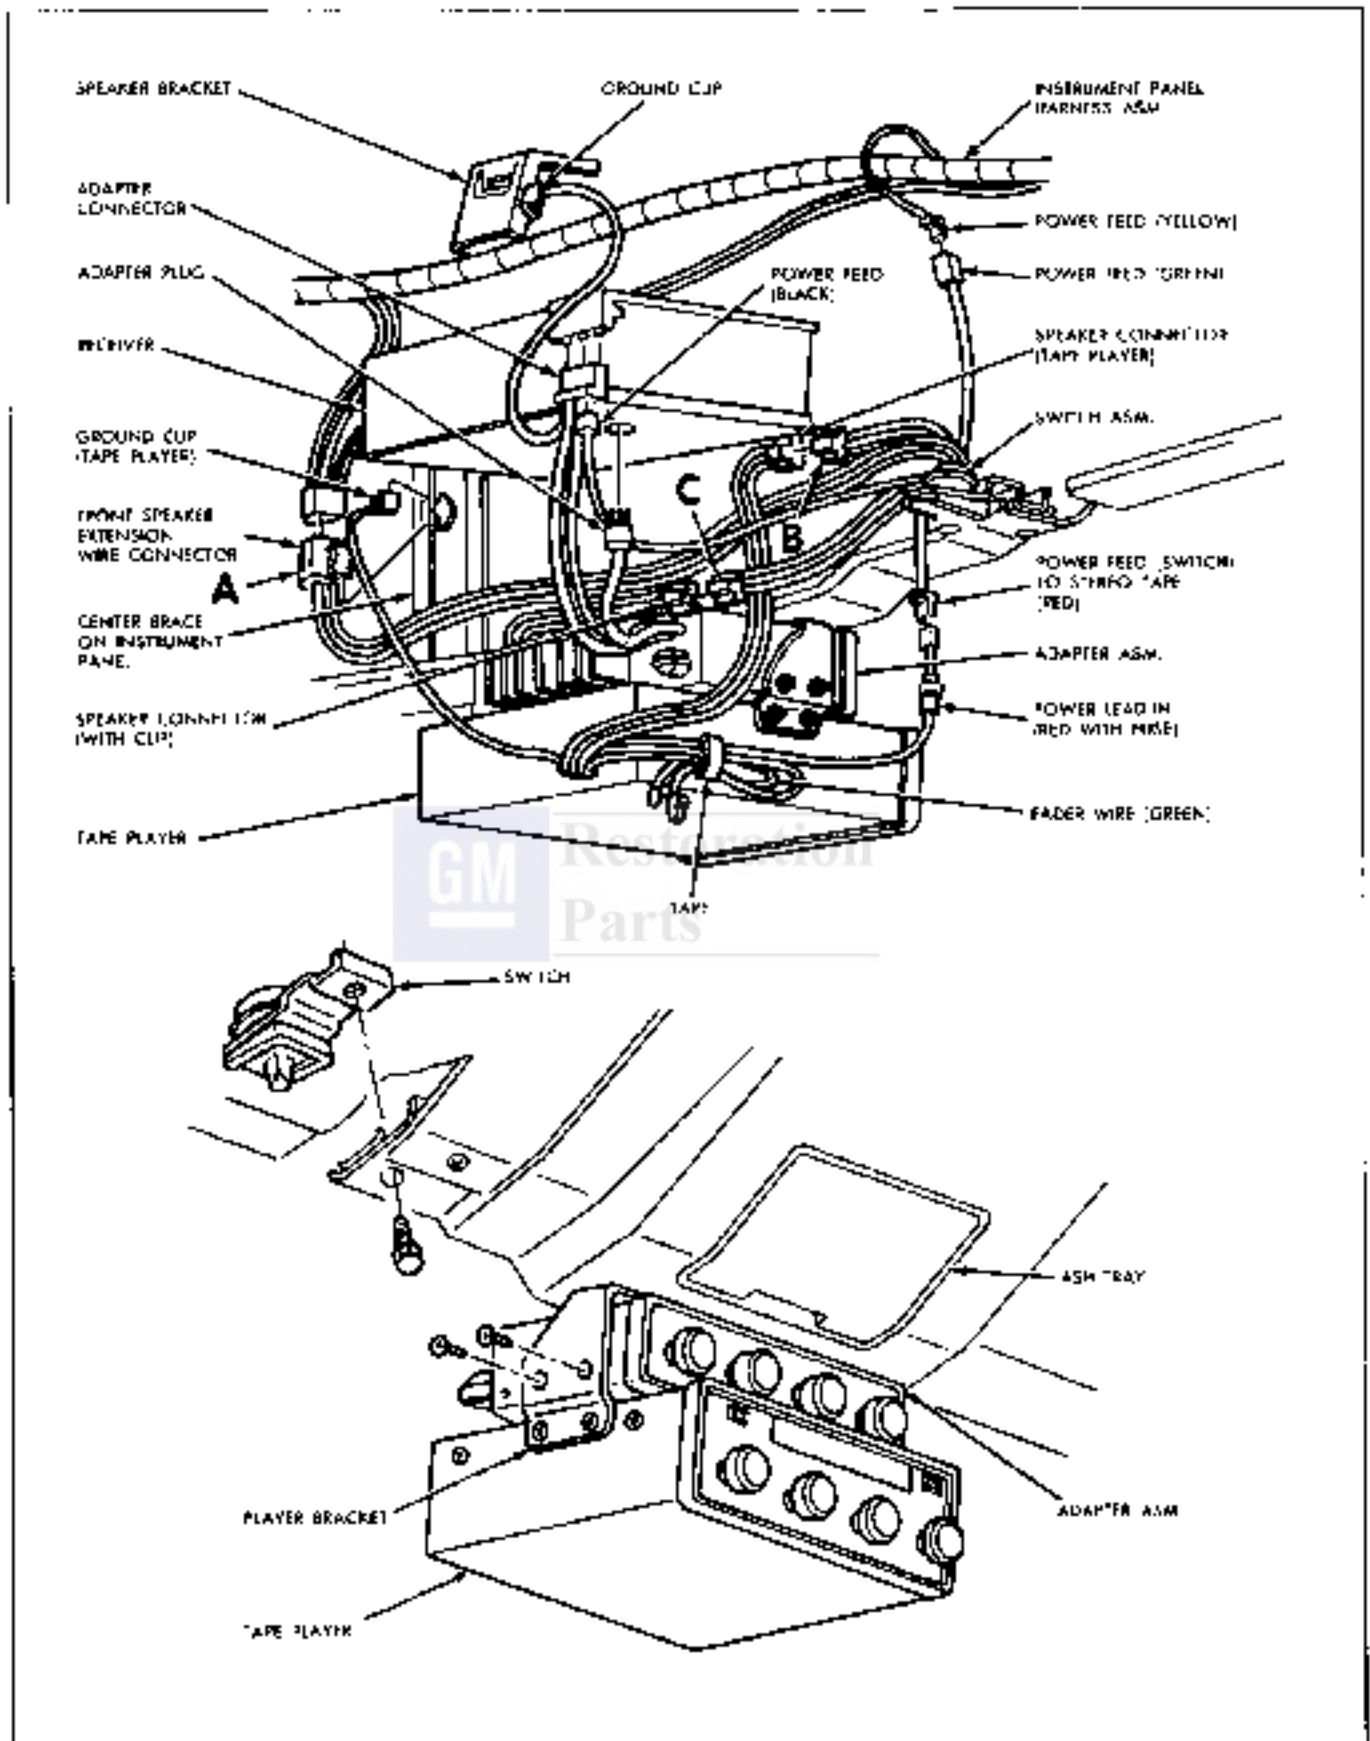

Fig. 15-54 Stereo Tape Player with Multiplex-irebird
5. Disconnect six-wire speaker connector from stereo speaker connector (or from connector to multiplex-tape player switch-connector C in figure 15-54 if also equipped with tape player).
also equipped with multiplex adapter, this wire will be connected to a six-wire connector from the tape player-multiplex switch assembly (see Fig. 15-54).
REMOVE AND REPLACE MULTIPLEX-TAPE PLAYER SWITCH (Fig. 15-54)
4. Disconnect three six-wire connectors (marked A, B, and C on Fig. 15-54).